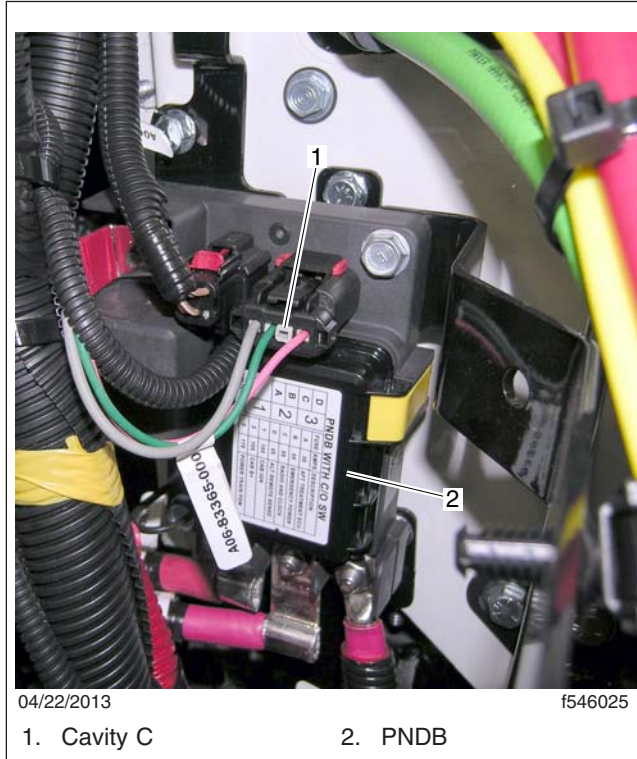

Fig. 2, PNDB on the Frontwall
- 2.11 Insert the other end of green wire 433 from the A06-82897-000 harness (A06-83365-000 for the 4700) in powernet distribution box (PNDB) cavity 3. See Fig. 2.